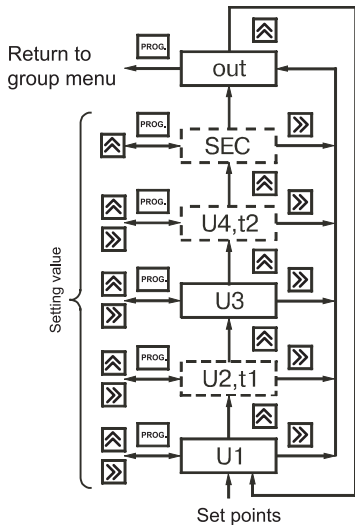

Figure 23.
6.1.6. «**Group_A**» group (figure 23) contains set points for logic devices **U1**, **U2 (t1)**, **U3** and **U4 (t2)**. Decimal point position in parameters **U1**, **U2**, **U3** and **U4** is defined by its position in **F** parameter.